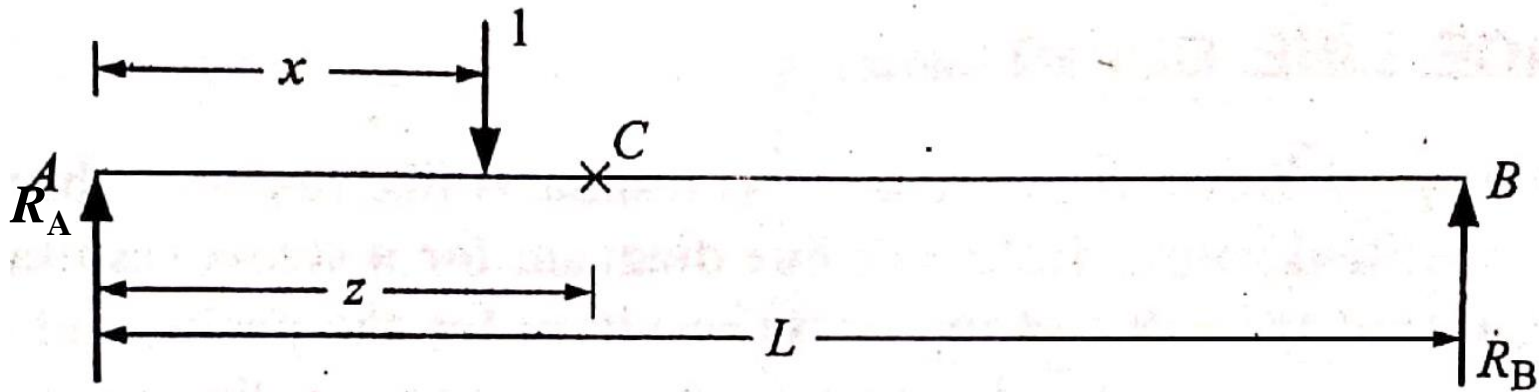

Figure 4: Beam with unit load
- Let the unit load be at a distance  $x$  from support A as shown in Figure 4.
- Hence, ILD for reaction at A ( $R_A$ ) is as shown in Figure 4.
- Let  $C$  be the section at a distance  $z$  from  $A$  as shown in Figure 4.